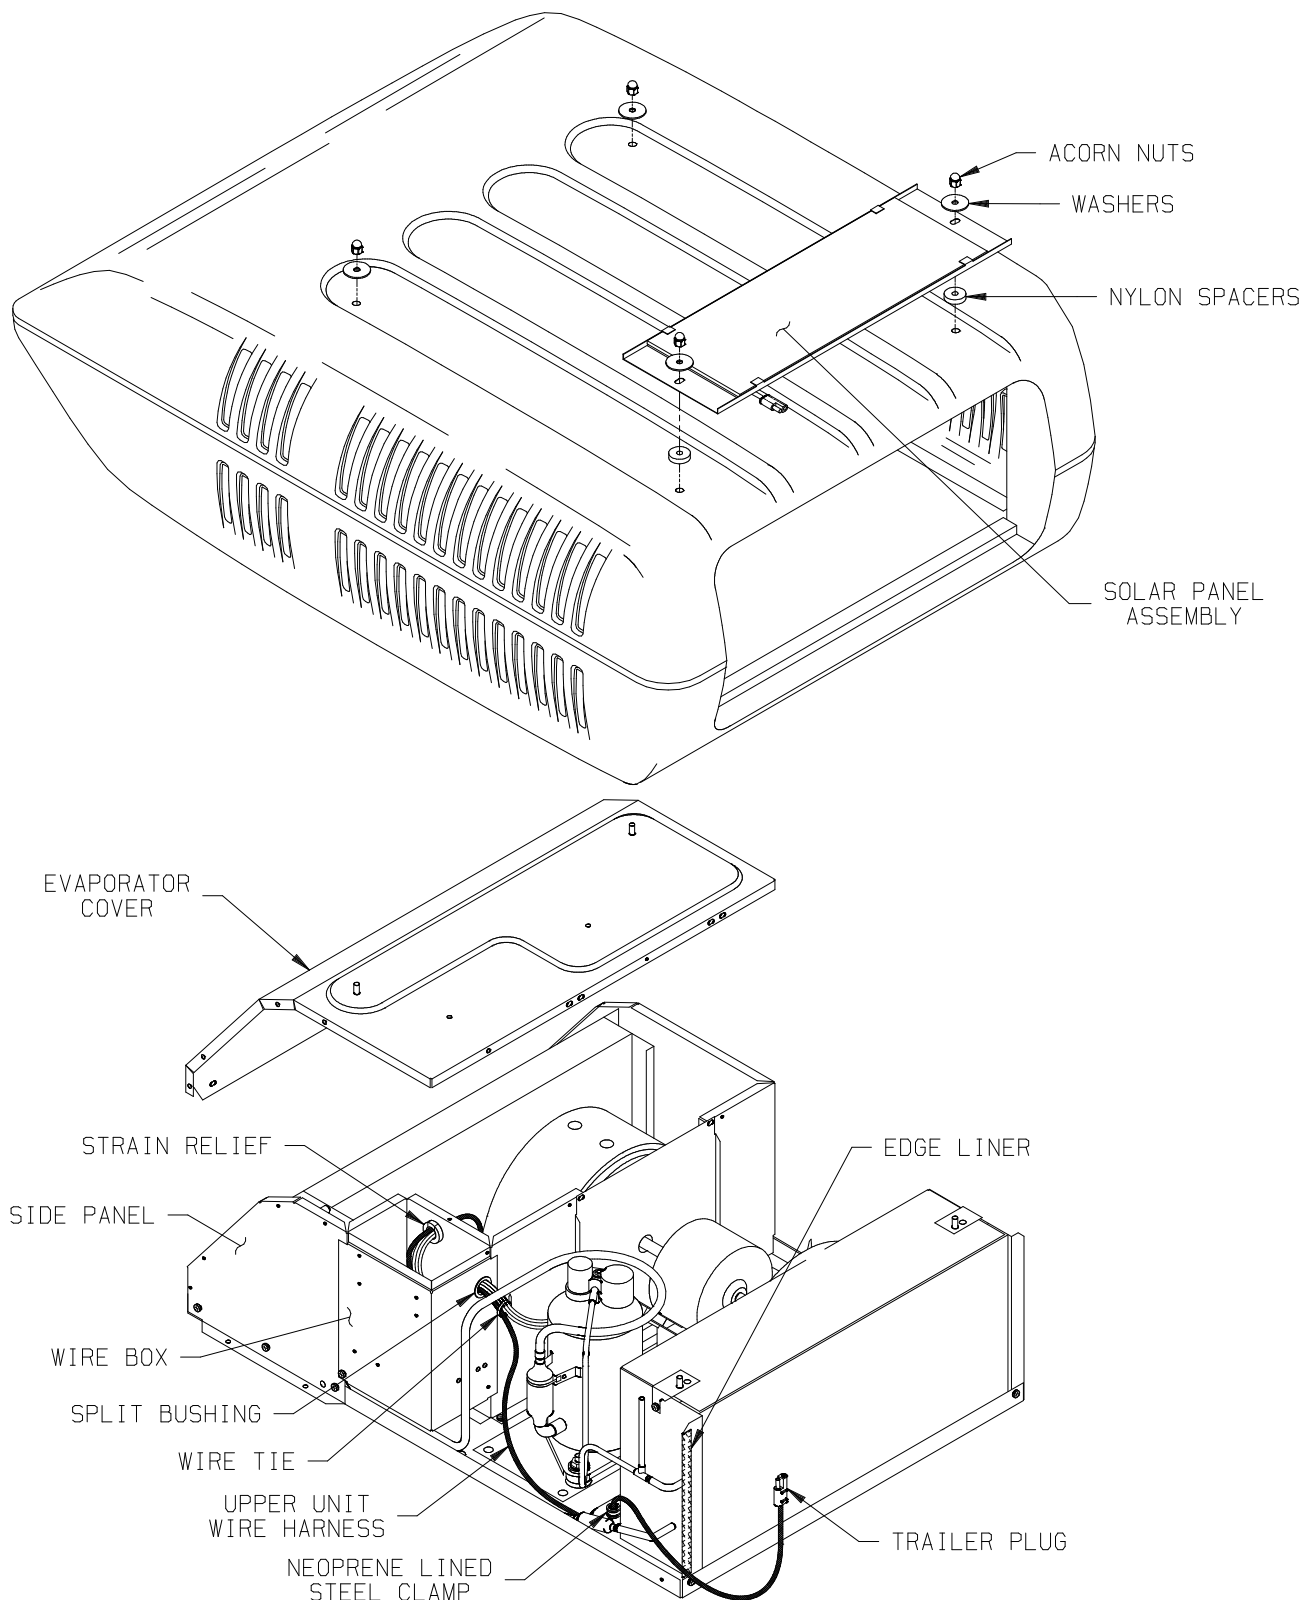

FIGURE 1
To install the solar panel and through-way wiring of this kit to the 6700 series Mach 1, II or III air conditioners, perform the following steps (refer to Figure 1). Reminder: This kit is not for use on Super Mach or Delta T air conditioners.
4. Using the neoprene lined steel clamp provided in this kit, secure the upper unit wire harness (Solar Harness Assembly Long) to the condenser panel as shown in Figure 1. Allow 24" between the clamp and the end of the trailer plug.
5. Attach the protective edge liner to the condenser flange by forcing the liner onto the metal edge as shown in Figure 1. Insure that the edge liner is securely installed. Cut off any excess edge liner length which may extend beyond the condenser header plate. Use a diagonal cutter for this purpose as the edge liner contains spring steel sections. **Wear eye protection when cutting edge liner.**
8. Remove and discard the strain relief bushing found in the side panel (refer to Figure 1). Route the solar harness through the hole in the side panel. Allow approximately 8" of slack harness wire inside the wire box and secure all wires to the side panel using the strain relief found in this kit. It may be necessary to wrap the wire bundle with electrical tape to provide a snug fit.
11. Before installing the shroud, position the trailer plug and solar harness outboard of the condenser coil so that it may be routed through the condenser air inlet of the shroud as the shroud is being reinstalled (See Figure 1). The harness will be trapped between the shroud foam blocks and the edge liner after installation.
12. Position the nylon spacers and the solar panel assembly as shown in Figure 1 and assemble to the roof top air conditioner unit with the acorn nuts and washers previously removed in Step 2.
5. Using the neoprene lined steel clamp provided in this kit, secure the upper unit wire harness (Solar Harness Assembly Long) to the condenser panel as shown in Figure 1. Allow 24" between the clamp and the end of the trailer plug.